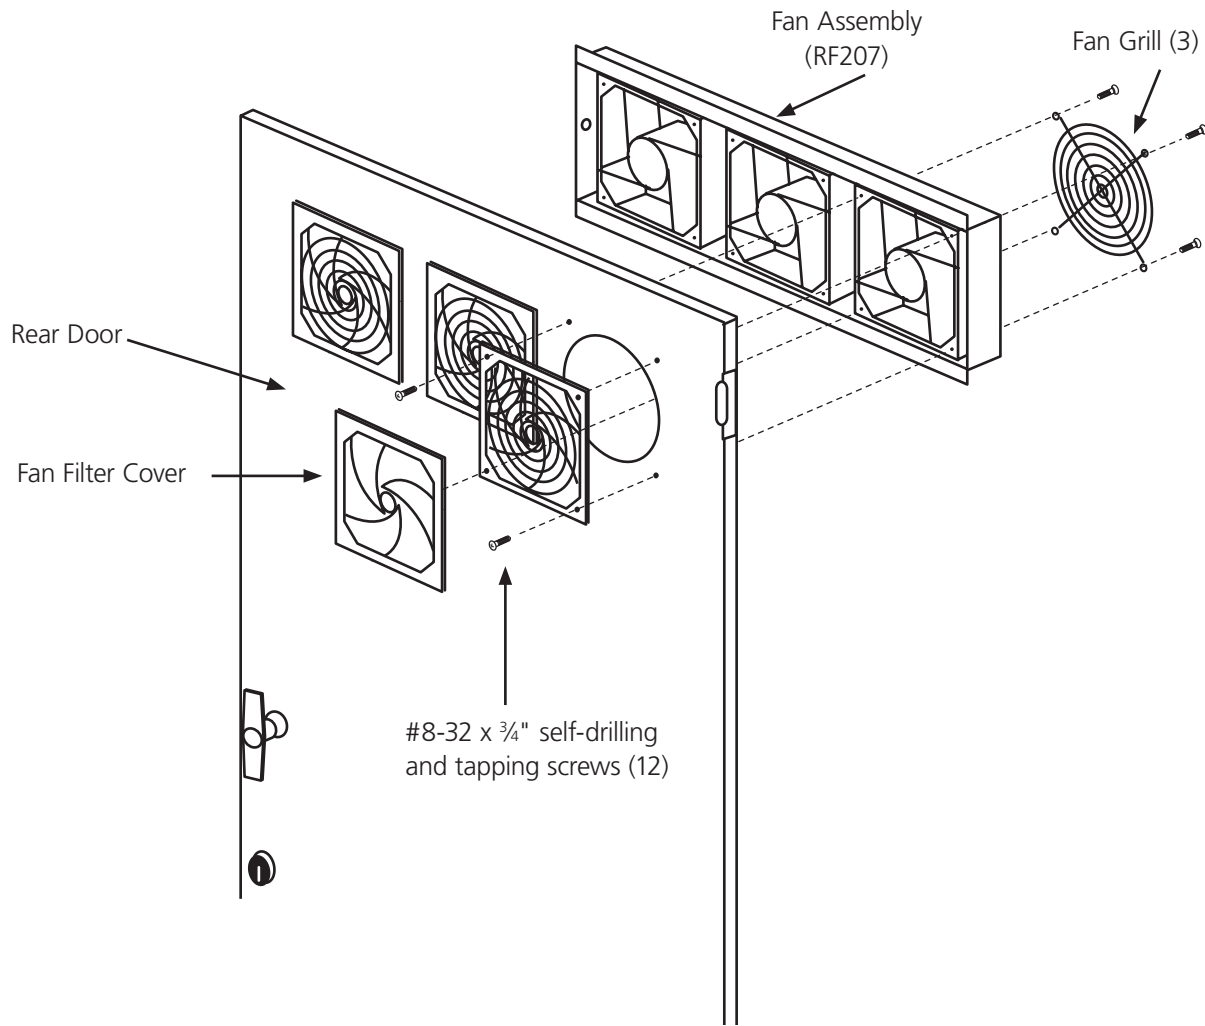

Figure 4-1. Replacing a Rear Door Fan Filter.
1. Replace one filter at a time. The 12 screws, which hold the filters in place, are the only thing holding on the fan assembly. If you replace one filter at a time, you only have to remove four screws at a time, which means you don't have to remove the fan assembly. See Figure 4-1.